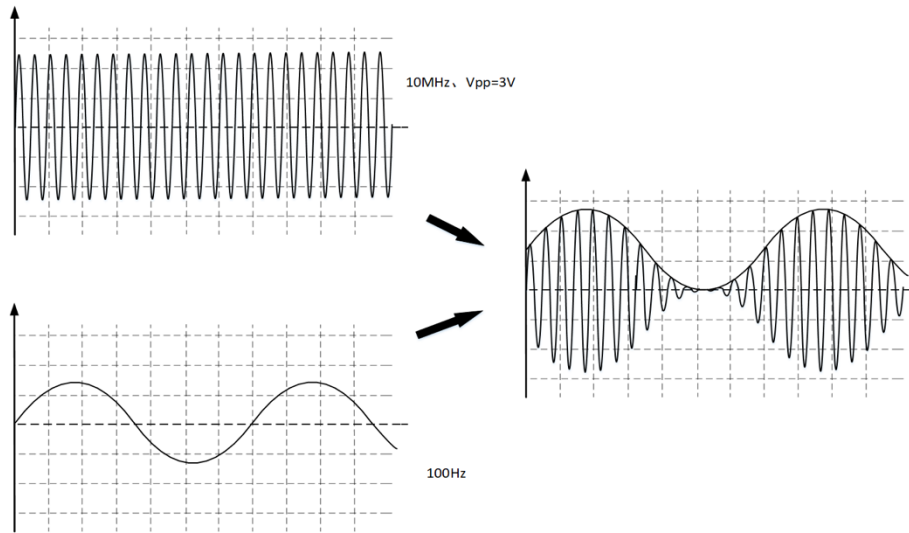

Figure 3-9
3.5 Amplitude Modulated (AM) Wave
To observe the details of the amplitude-modulated (AM) wave as specified in Figure 3-9 using an oscilloscope, you need to consider the oscilloscope's storage depth and the trigger hold-off time for stable waveform observation.